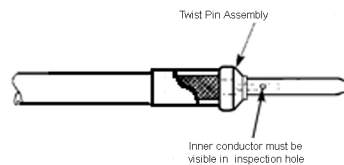

Figure 2
STEP 2. Insert conductor into the twist pin contact assembly making sure it is visible in the inspection hole – per Figure 2.